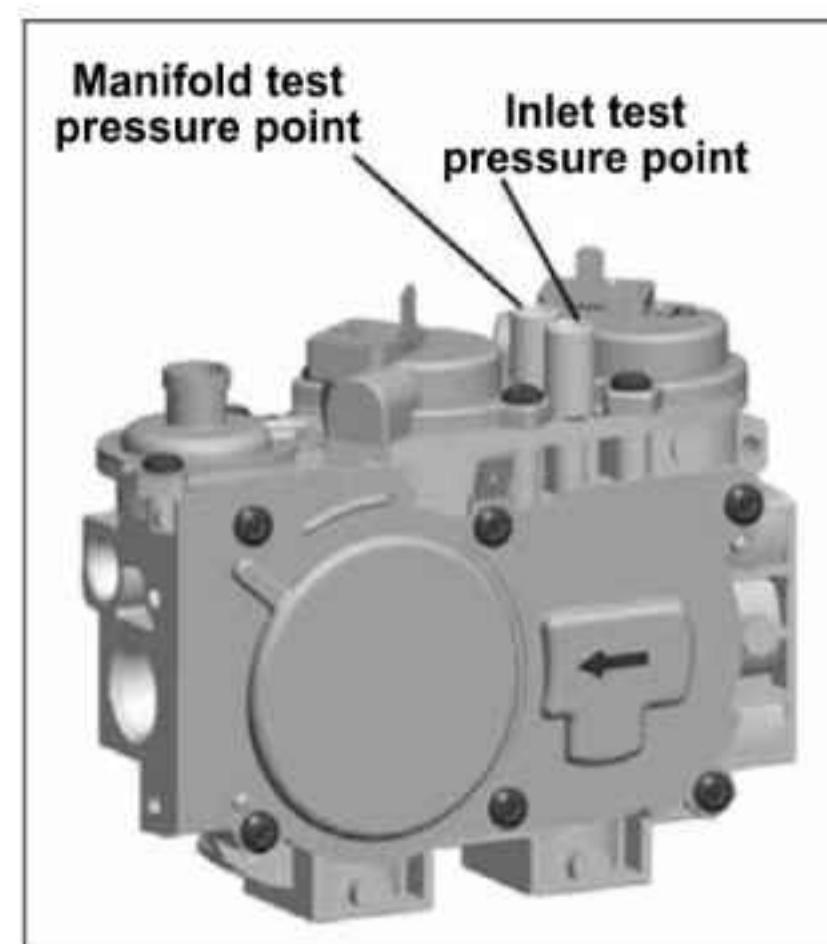

Figure 59: Pressure Test Points.
- b. Place a $\frac{1}{4}$ " silicone tube over either pressure port on the valve (refer to Figure 59). Attach the tube to a mono meter.